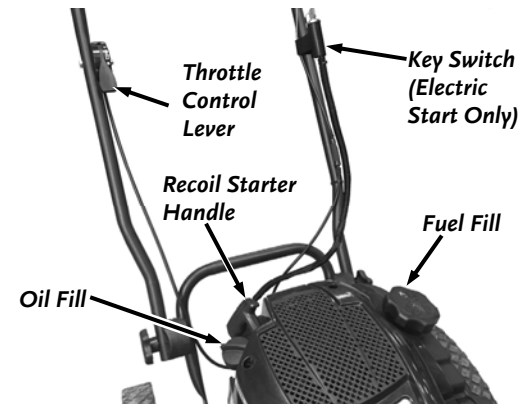

Figure 13
1. Check the oil level every time you use the DR TRIMMER/MOWER (**Figure 13**).
1. Push the Throttle Control Lever all the way forward to the Run  position (**Figure 13**).